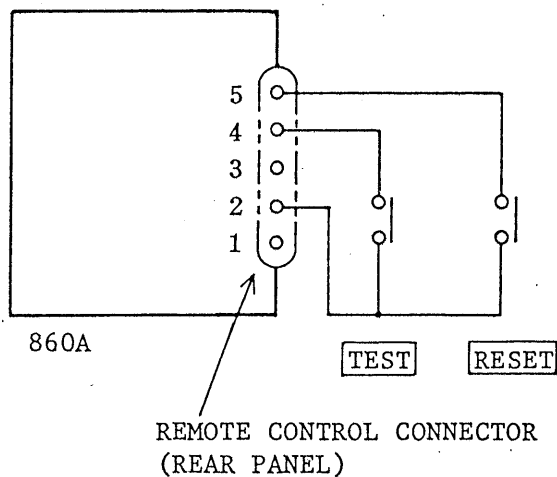

Figure 4.3
- (a) By controlling the TEST and RESET contacts shown in Figure 4.3, the test voltage can be on-off controlled in the same manner as done at the instrument front panel.
- (c) Logical elements or transistors may be used instead of the switches in Figure 4.3. The signal status for such operation is shown in Figure 4.5. The input conditions of this instrument for such operation are as follows: